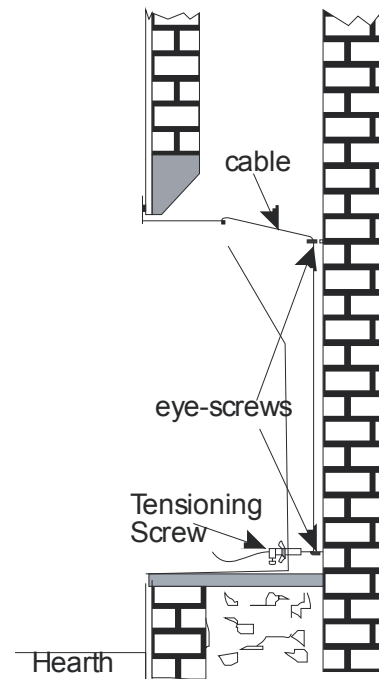

Figure 56
1. With the firebox placed close to the fireplace opening feed the two cables through the matching eye screws (left cable through left hand set eyelets and the same for right hand cable) and then back into the holes at the bottom rear of the firebox (see **Figure 56**).